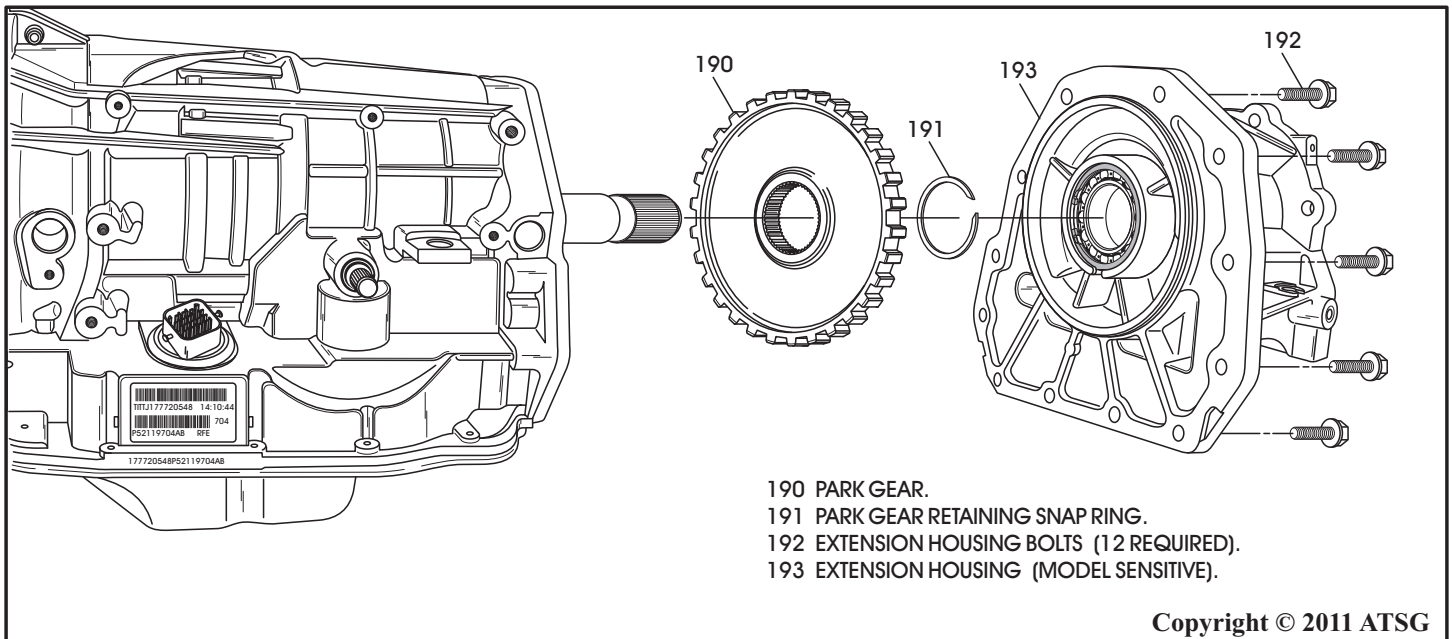

Figure 37
9. Remove the 12 extension housing to case retaining bolts using a 15mm socket and then remove the extension housing, as shown in Figure 37.
10. Remove the park gear snap ring from the output shaft and remove the park gear, as shown in Figure 37.